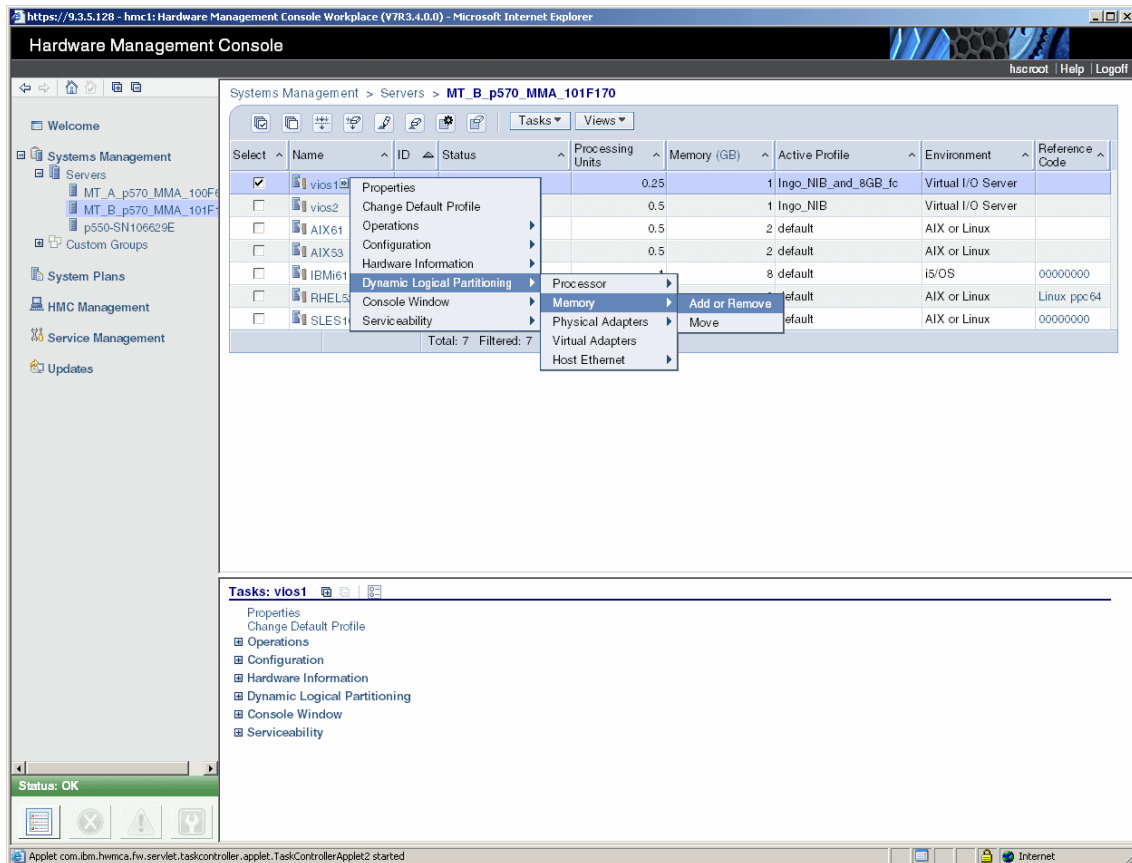

Figure 12-6 Add or remove memory operation
1. Select the logical partition where you want to initiate a dynamic LPAR operation. The first window in any dynamic operation is similar to Figure 12-6.